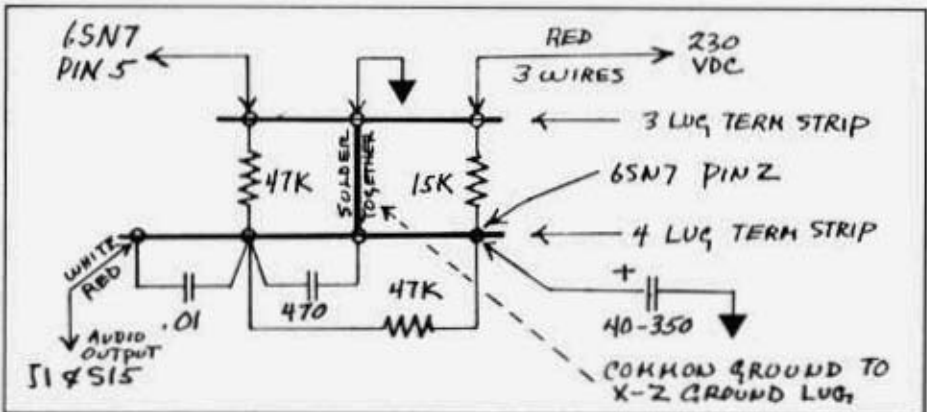

Figure 1, component 'kludge'.
12) Prepare the component-kludge (KC) as shown in Figure 1.